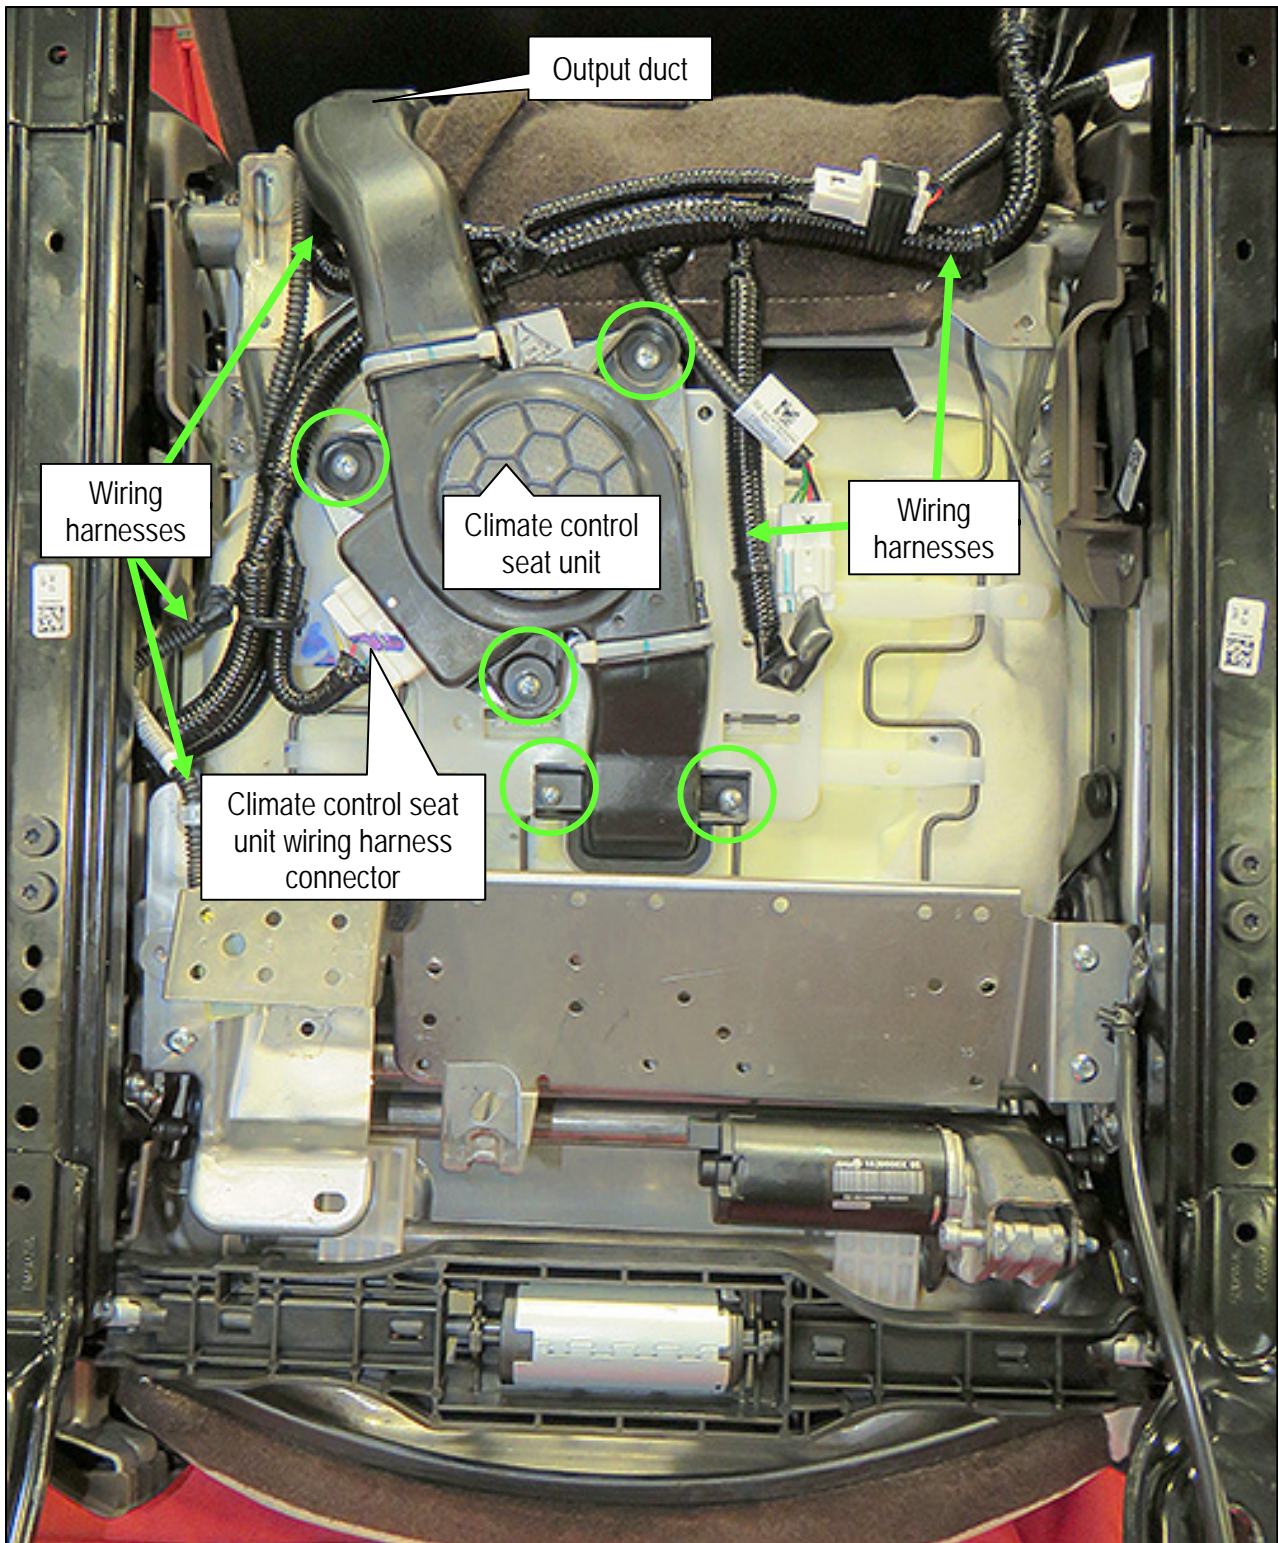
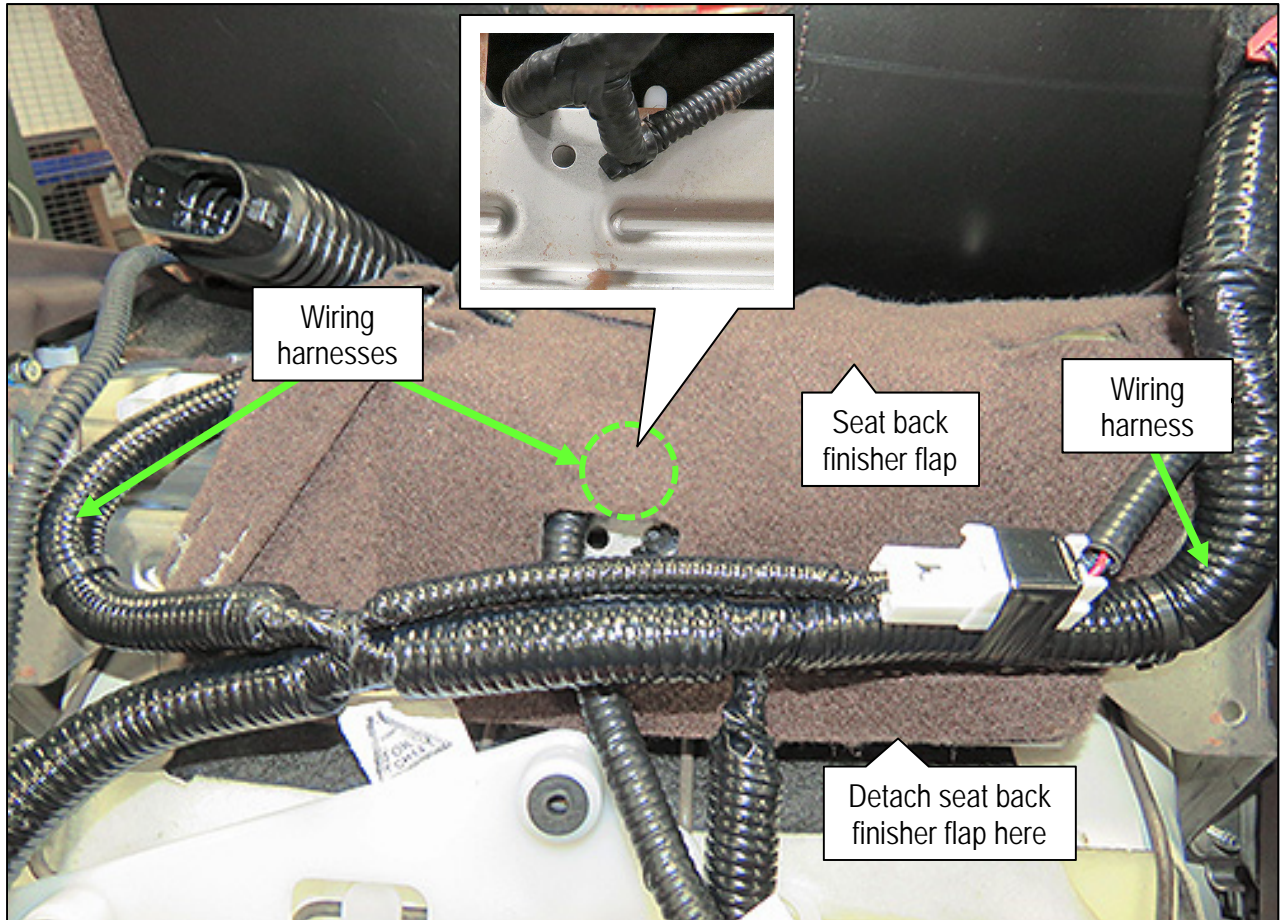

Figure 6
Figure 7
12. Remove the 5 screws circled in Figure 6, and then remove the climate control seat unit from the seat frame.
13. Unclip any remaining harnesses shown in Figure 6 (below) and Figure 7 on page 7.